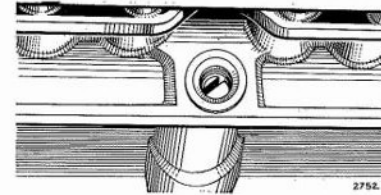

Fig. B.69. Correct location of the offset slot in the driving pinion, after fitting the oil pump, with the engine set at T.D.C. and firing on number 1 cylinder
- Offer up the oil pump and secure to the crankcase with the nuts and spring washers. After fitting the oil pump, it should be checked to ensure that the coupling slot has assumed the position shown in Fig. B.69, noting that due to the meshing of the helical skew gears, the coupling slot has rotated clockwise viewed from above and is now diagonally opposed with the large segment positioned outwards, the engine maintaining its original setting of T.D.C. with number 1 cylinder firing.